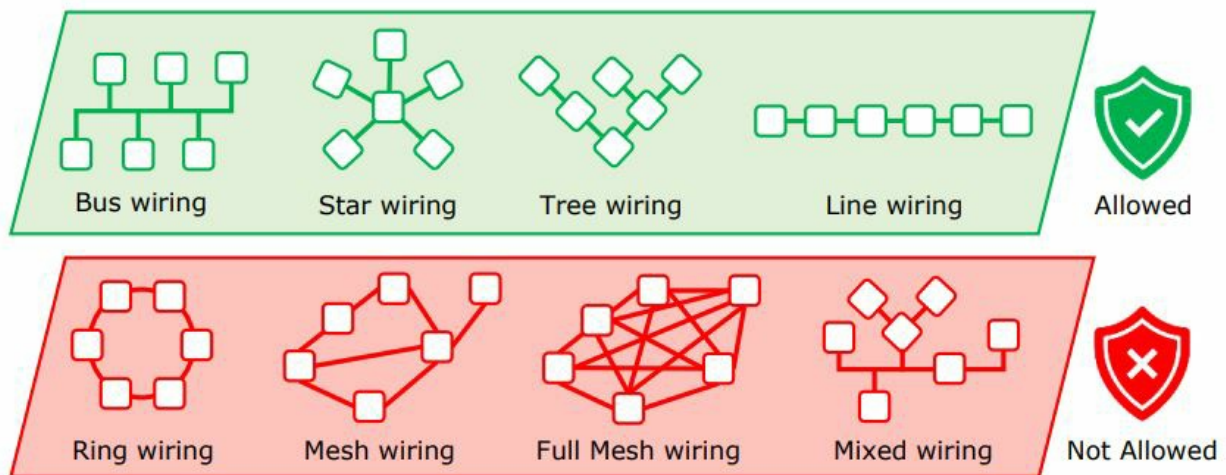

Figure 7: DALI wiring Topologies
- The DALI protocol supports up to 64 Control Gear slave devices (e.g. RUNNING-LIGHT) connected with different wiring topologies shown in Figure 7: Bus-wiring, Star-wiring, Tree-wiring, or Line-wiring. Other topologies are excluded.